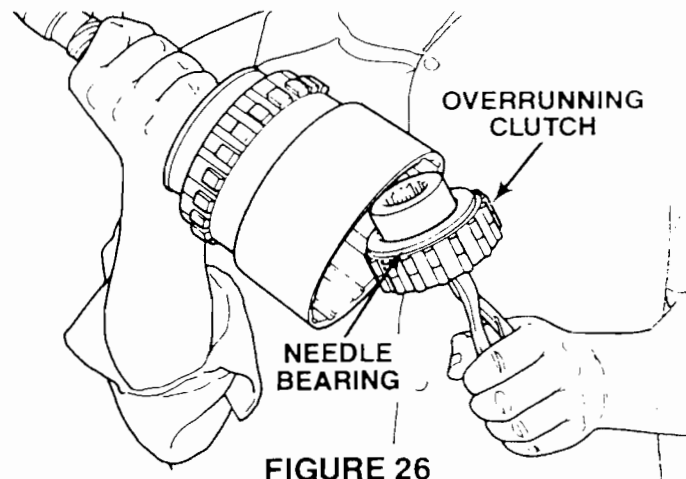

FIGURE 26
16. Next, to remove the overrunning clutch, invert the assembly and, with expanding snap ring pliers, reach into the inner splines of the clutch. You can remove the overrunning clutch intact with a quick counterclockwise twist (Figure 26). Also remove the needle bearing.